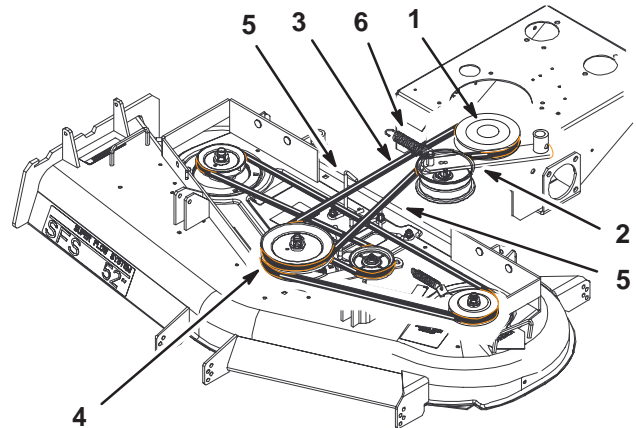

Figure 60
9. Adjust PTO drive belt guides an 1/8 in. from belt (Fig. 60).
5. Remove the idler spring from idler arm. Remove the drive belt from the PTO engagement pulley and the center spindle pulley (Fig. 60).
6. Remove the worn drive belt (Fig. 60).
7. Install the new drive belt onto the PTO engagement pulley and the top groove of the center spindle pulley (Fig. 60).
8. Install belt onto idler pulley and then install idler spring (Fig. 60).